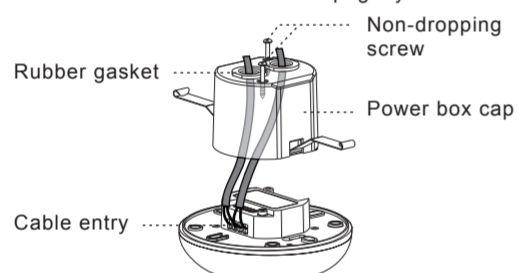

FIG.11
4.4.2.2 Use screwdriver to break the rubber gasket on Power box cap, then feed cables through it (See FIG.11).